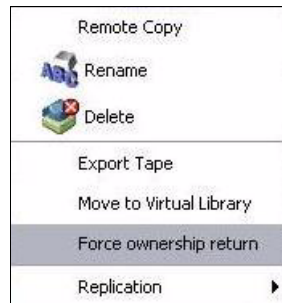

Figure 12-34 Force ownership return
2. Once that is complete, right-click the **Virtual Vault** and select **Force ownership return**. See Figure 12-34.